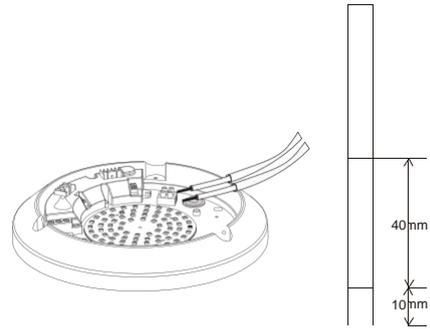

Fig.5
- Step5 Put the power line through the line hole to connect on the wiring (as Fig.5)